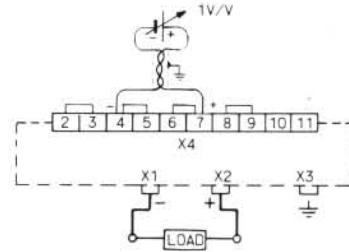

Fig. 8e. Remote voltage control with external voltage
- b. By connecting an adjustable voltage source of 1 V per volt output voltage as shown in Fig. 8e. The voltage source must be able to consume 1 mA.